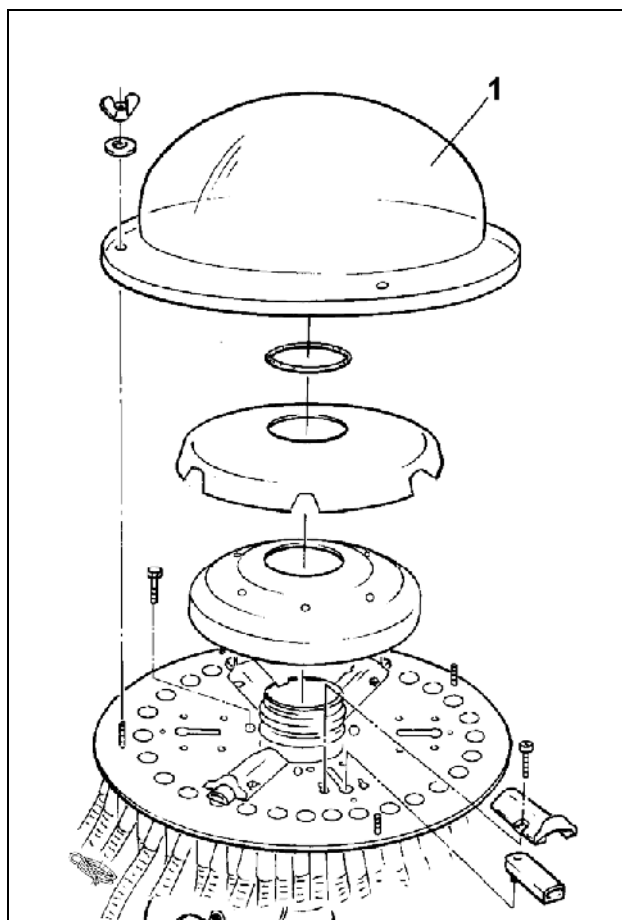

Fig. 124
- For cleaning the distributor head remove outer hood (Fig. 124/1) of the distributor head.